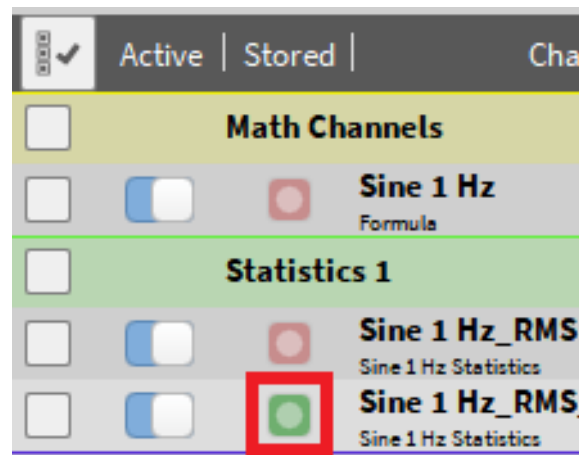

Fig. 7.174: Recognition of offline created channels
- Channels that have been created offline can be recognized on the Green Record button in the Channel List (see Fig. 7.174):